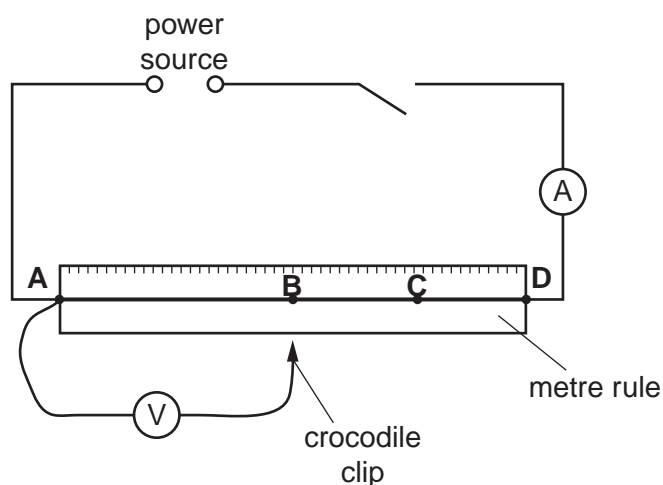

Fig. 3.1
- (vi) Sufficient connecting leads to set up the circuit shown in Fig. 3.1.
1. The circuit is to be set up for the candidates as shown in Fig. 3.1.
3. Labels are to be attached to the metre rule as shown in Fig. 3.1. **A** is at the zero end of the rule, **B** at the 50.0 cm mark, **C** at the 75.0 cm mark and **D** at the 100.0 cm mark. The labels should not obscure the scale of the metre rule.
Reconnect the circuit as shown in Fig. 3.1. Check that the output of the power source is close to its original value.